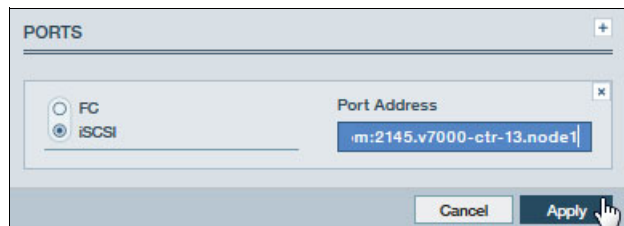

Figure 4-9 Adding Storwize V7000 host ports to the hosts that are defined
6. Define the port addresses and click **Apply** to create the ports, as shown in Figure 4-9. You can instead run the command that is shown in Example 4-6. Do it for the other nodes as well.